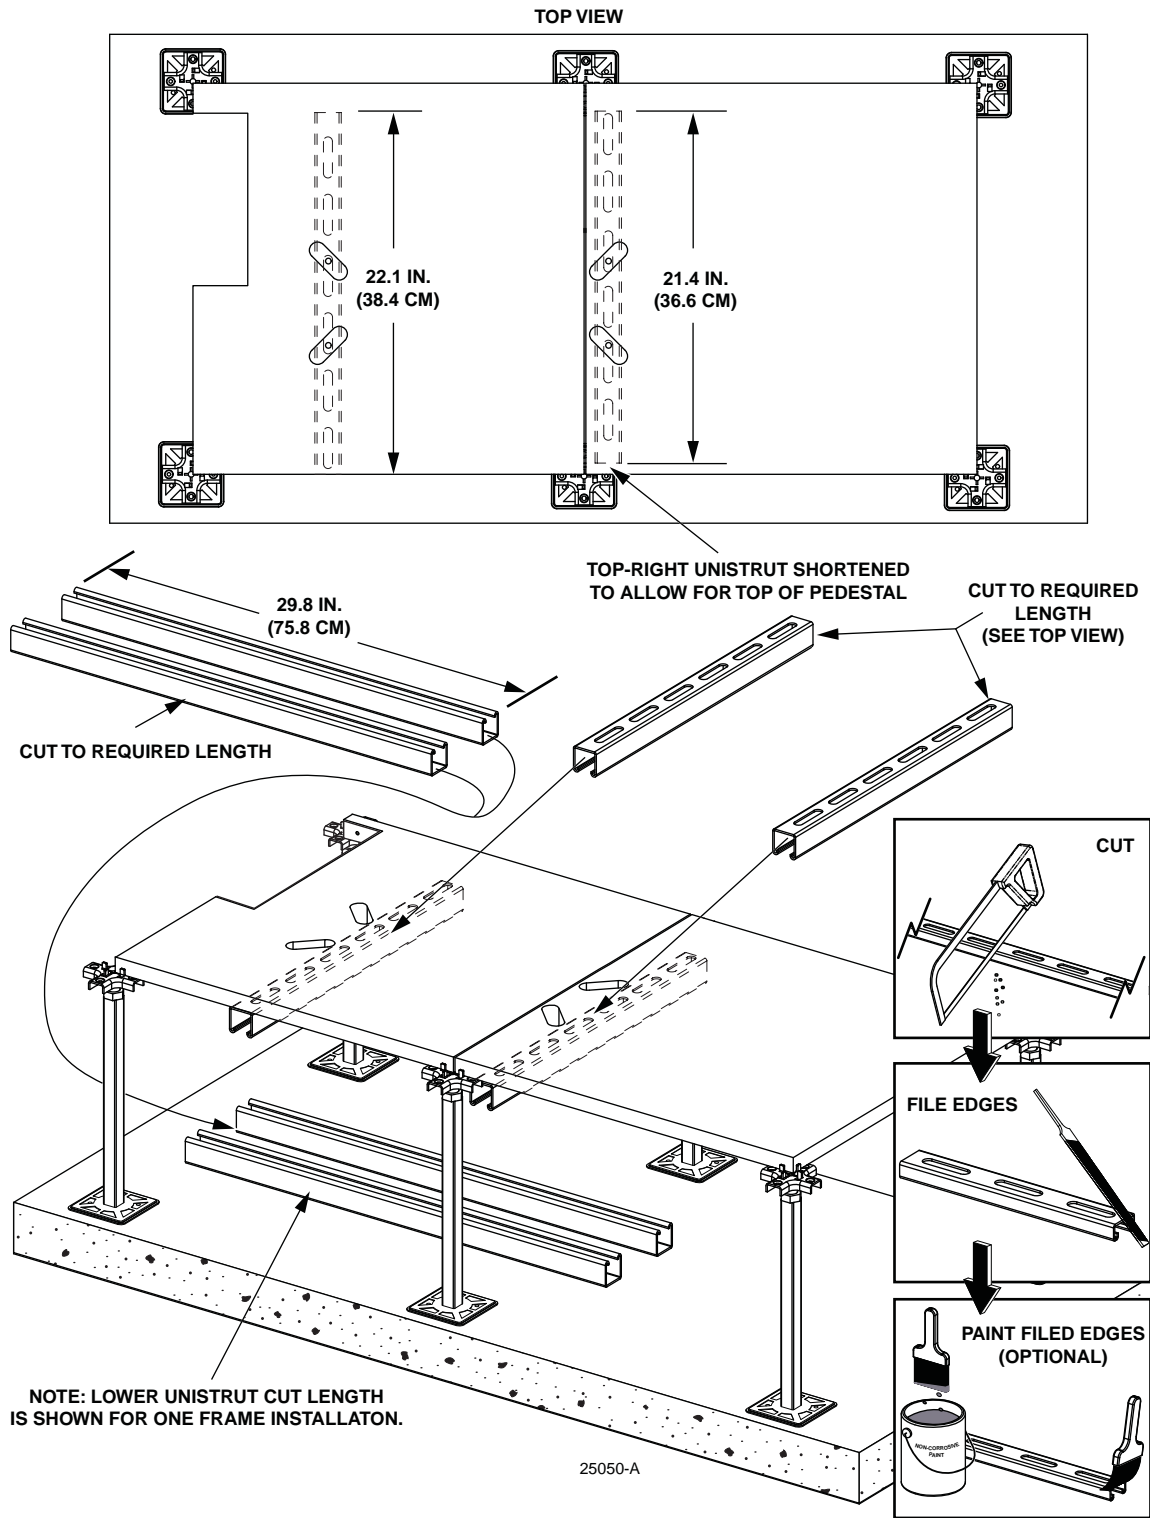

Figure 8. Cutting Unistrut
7. Cut the unistrut to the required length, as shown in Figure 8.